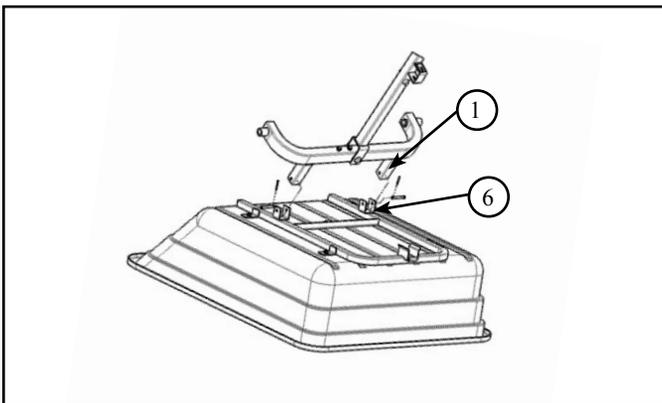

Figure 3.12- Align Axle Frame With Bed Frame
1. Align axle frame (1) with bed frame (6) pivot holes. Refer to Figure 3.12